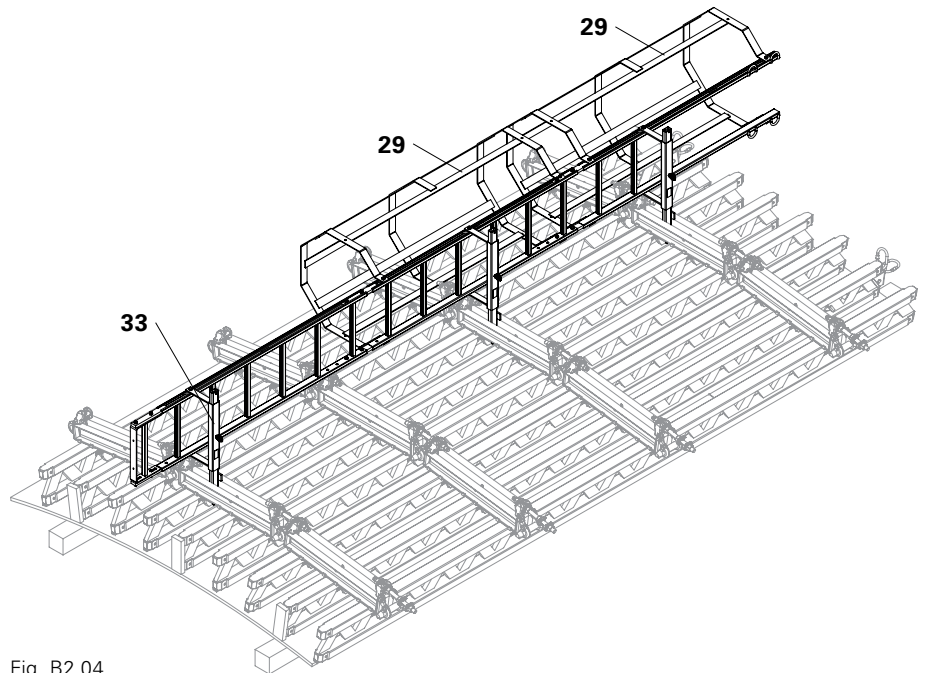

Fig. B2.04
1. Insert Ladder Connector VARIO (33) through the Articulated Waler (1).
2. Fix Ladder Connector VARIO (33) using the Wingnut Counterplate DW 15 (33.1). (Fig. B2.04 + B2.05a)
4. Fix the pre-assembled ladder to the Ladder Connectors VARIO (33) by means of clamping plates (25.1), SW 19.
5. Mount Ladder Safety Cage 75/150 (29) with clamping plates (25.1) according to plan. Depending on the situation, mount with overlapping ladder joints. (Fig. B2.04 + B2.05b)